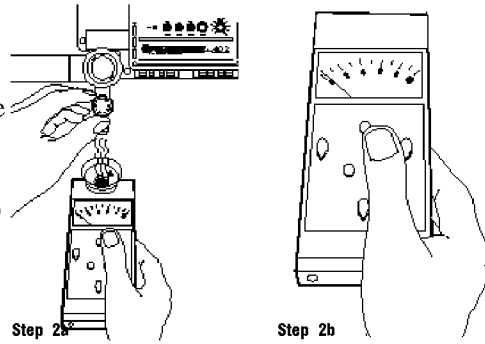

Fig. 6, Water sample reading
2) Take a sample of the cooling water and measure with calibrated hand held meter. Note reading (See Fig. 6, Steps 2a and 2b).